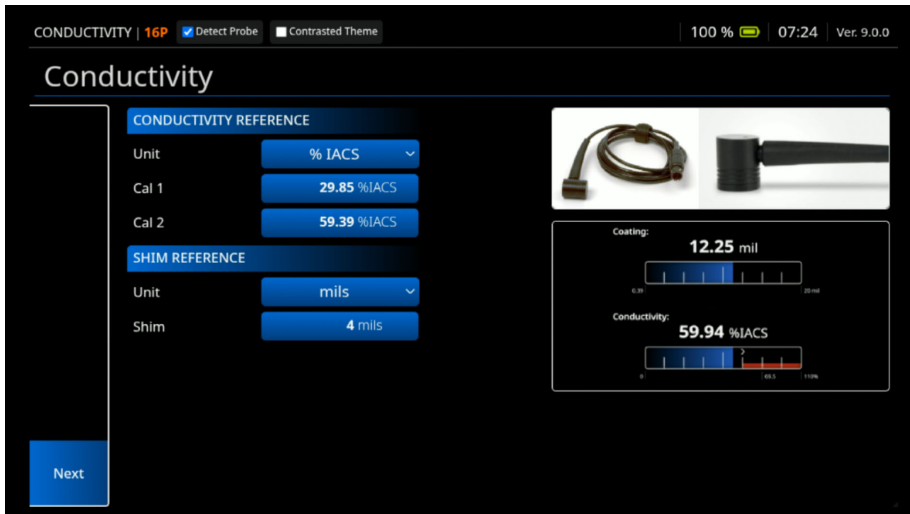

Figure 6-4 Conductivity Unit and Shim
3. Define the **Unit** and **Shim** to be used for the calibration (See Figure 6-4 on page 209).